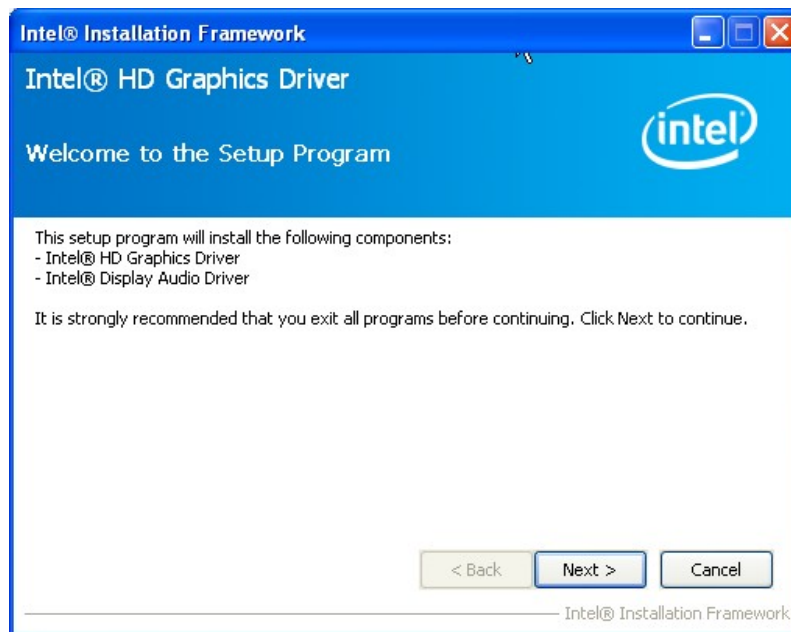

Figure 6-6: Graphics Driver Welcome Screen
- Step 4:** The **Welcome Screen** in **Figure 6-6** appears. Click **Next** to continue.